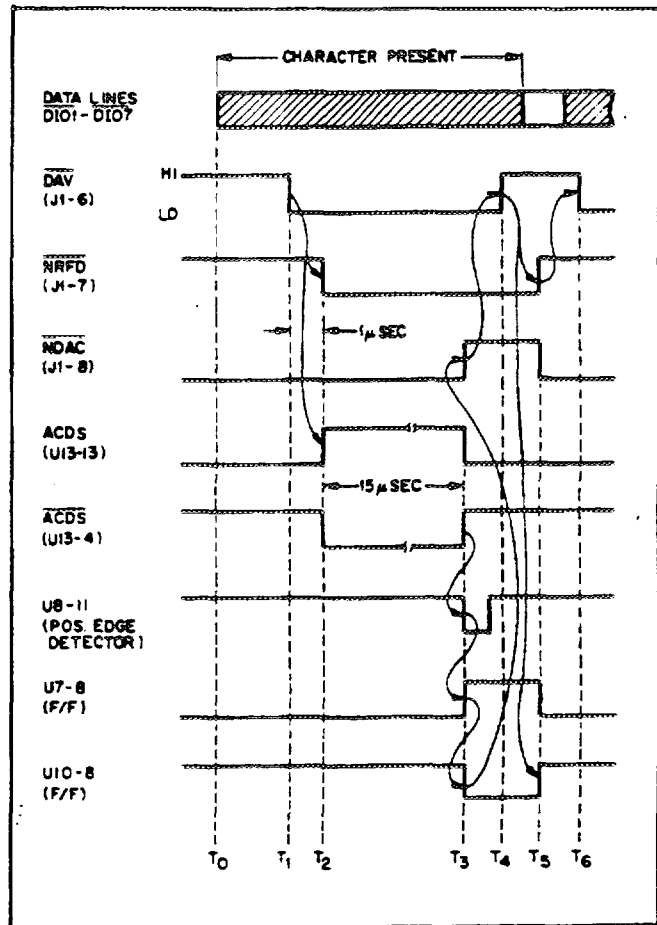
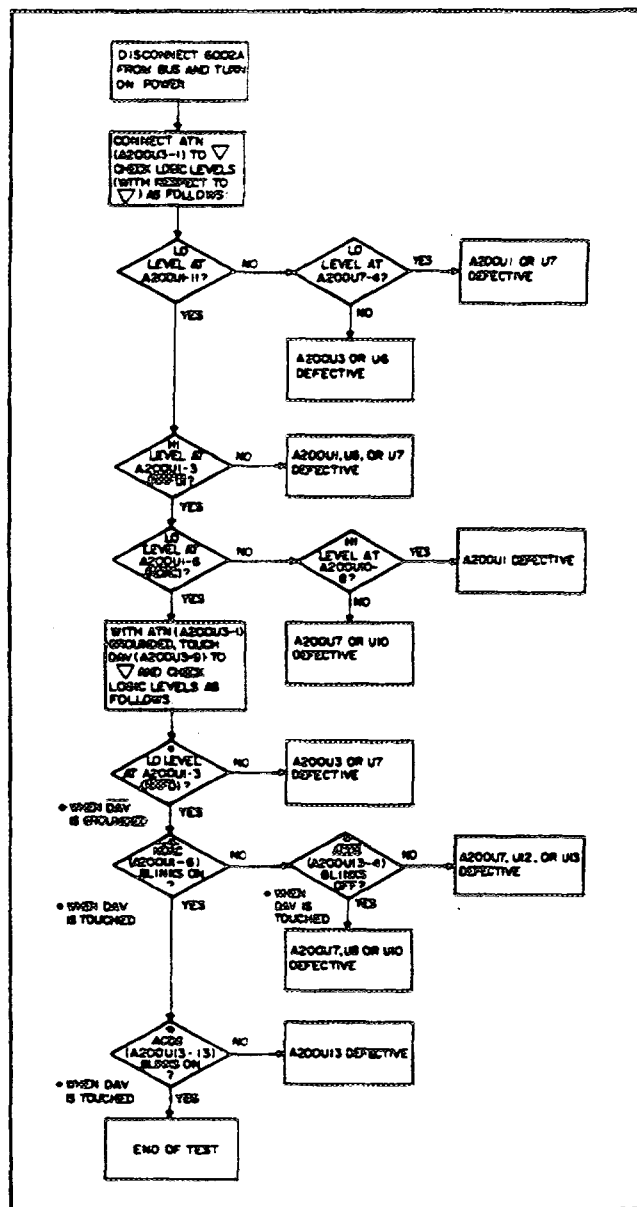

Figure A-6. Acceptor Handshake Signals, Timing Diagram
Figure A-11. Acceptor Handshake Circuits Troubleshooting Flow Chart
A-63 Acceptor Handshake (Sheet 2). The acceptor handshake circuit implements the 3-wire handshake cycle that occurs with each command or data character received on the bus data lines DI01-DI07. Unrecognized command characters (e. g., talk address) will be ignored but the handshake cycle between the controller and the 6002A will occur anyway. The 3-wire handshake lines are designated  $\overline{\text{DAV}}$  (data valid),  $\overline{\text{NRFD}}$  (not ready for data), and  $\overline{\text{NDAC}}$  (data not accepted). The acceptor handshake circuit is enabled when the bus is in the command mode ( $\overline{\text{ATN}}$  is LO) or if the 6002A is in the listen mode (listen flip-flop set) and  $\overline{\text{ATN}}$  is HI (data mode). For either of the above conditions, the output of NAND gate U7-6 goes HI and NAND gate U1-11 goes LO enabling the acceptor handshake circuits. Figure A-6 illustrates the 3-wire handshake cycle timing sequence for each character received by the 6002A in the command and data modes.
**A-100 Acceptor Handshake Troubleshooting.** Figure A-11 provides a static check of the Option 001 acceptor handshake circuit. However, it is possible to have a condition where a faulty circuit would not be detected by performing these checks. If a timing problem is suspected, the acceptor handshake circuit must be checked dynamically. A dynamic test can be made by continuously programming the 6002A-001 to "listen" and observing the handshake signals on an oscilloscope. The handshake cycle timing relationships are shown in Figure A-6.